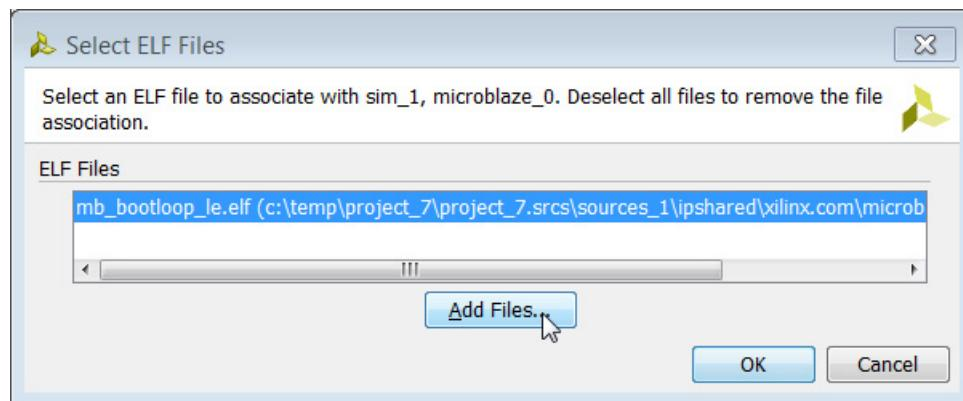

Figure 4-32: Select and Add ELF File
3. In the Select ELF File dialog box, click **Add Files**, as shown in Figure 4-32, page 87.